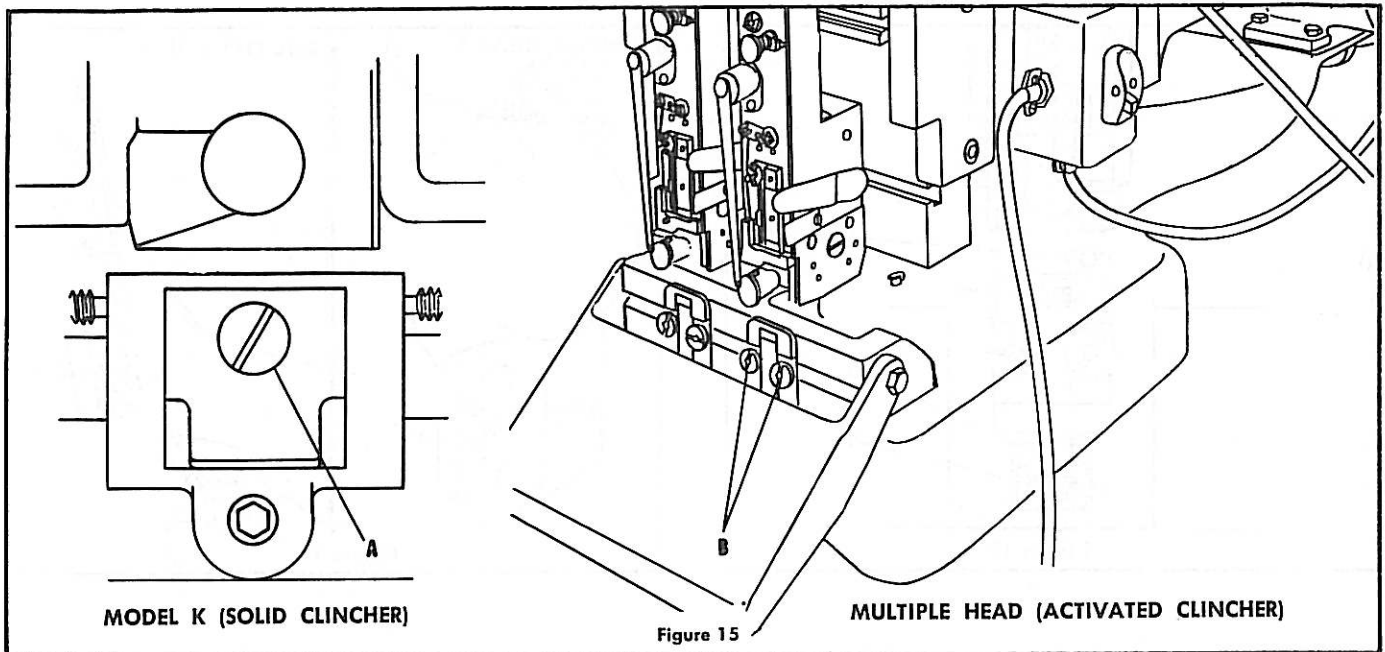

Figure 15
2. To adjust for side-to-side alignment: (Figure 15)